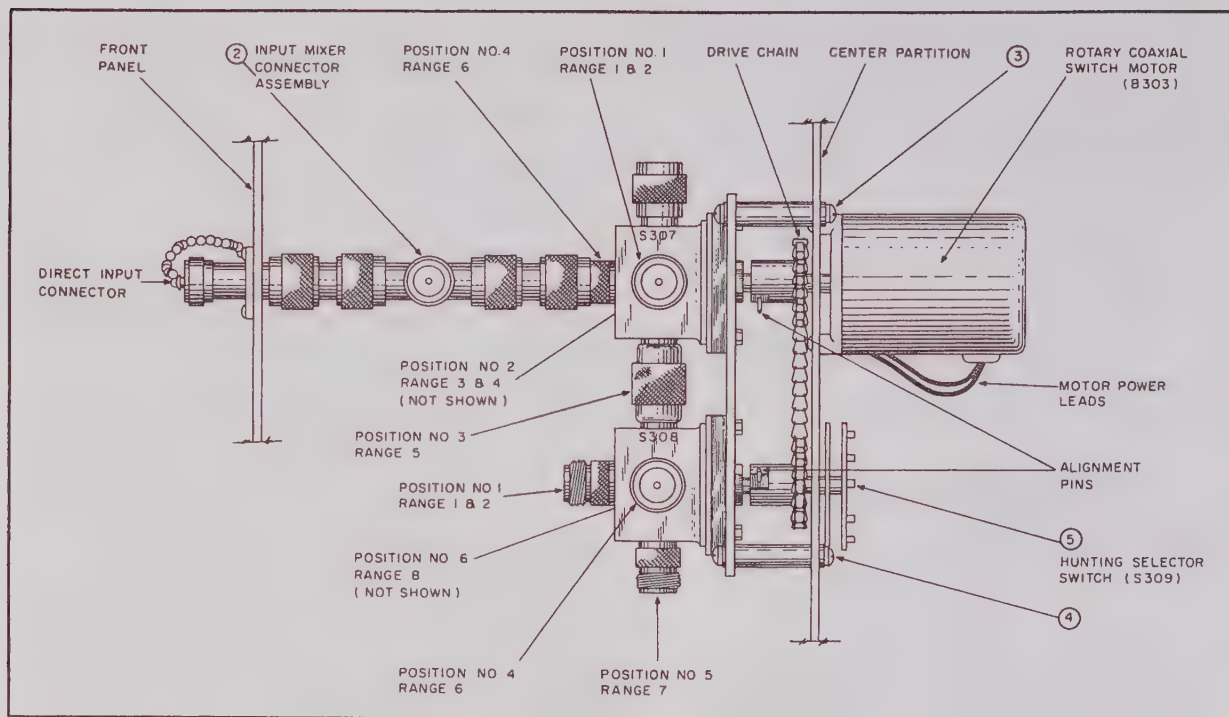

Figure V-36. Rotary Coaxial RF Switch Assembly (Serial Numbers 151-200).
Reference figure V-36
4. Procedure for Removal and Replacement of the Rotary Coaxial RF Switch Assembly. (Serial nos. 151-200) Reference Figure V-36.